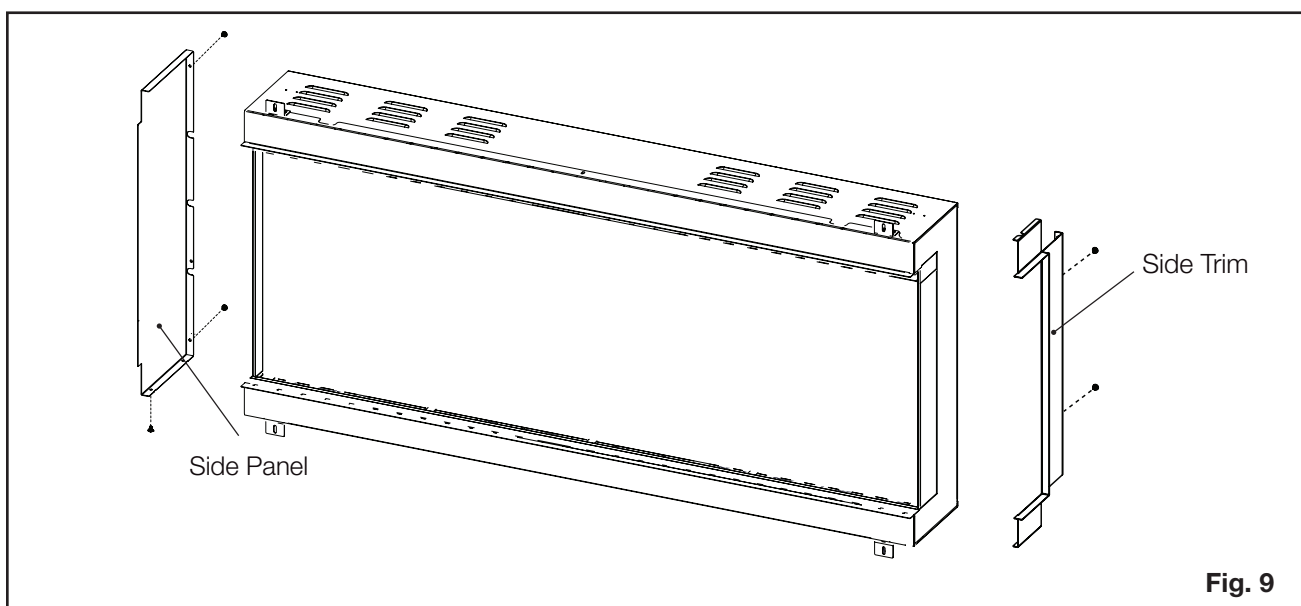

Fig. 9
2. For desired open side, remove the screws from the back of the fireplace which align with the trim then secure the trim using the metal screws provided (**Fig. 9**).